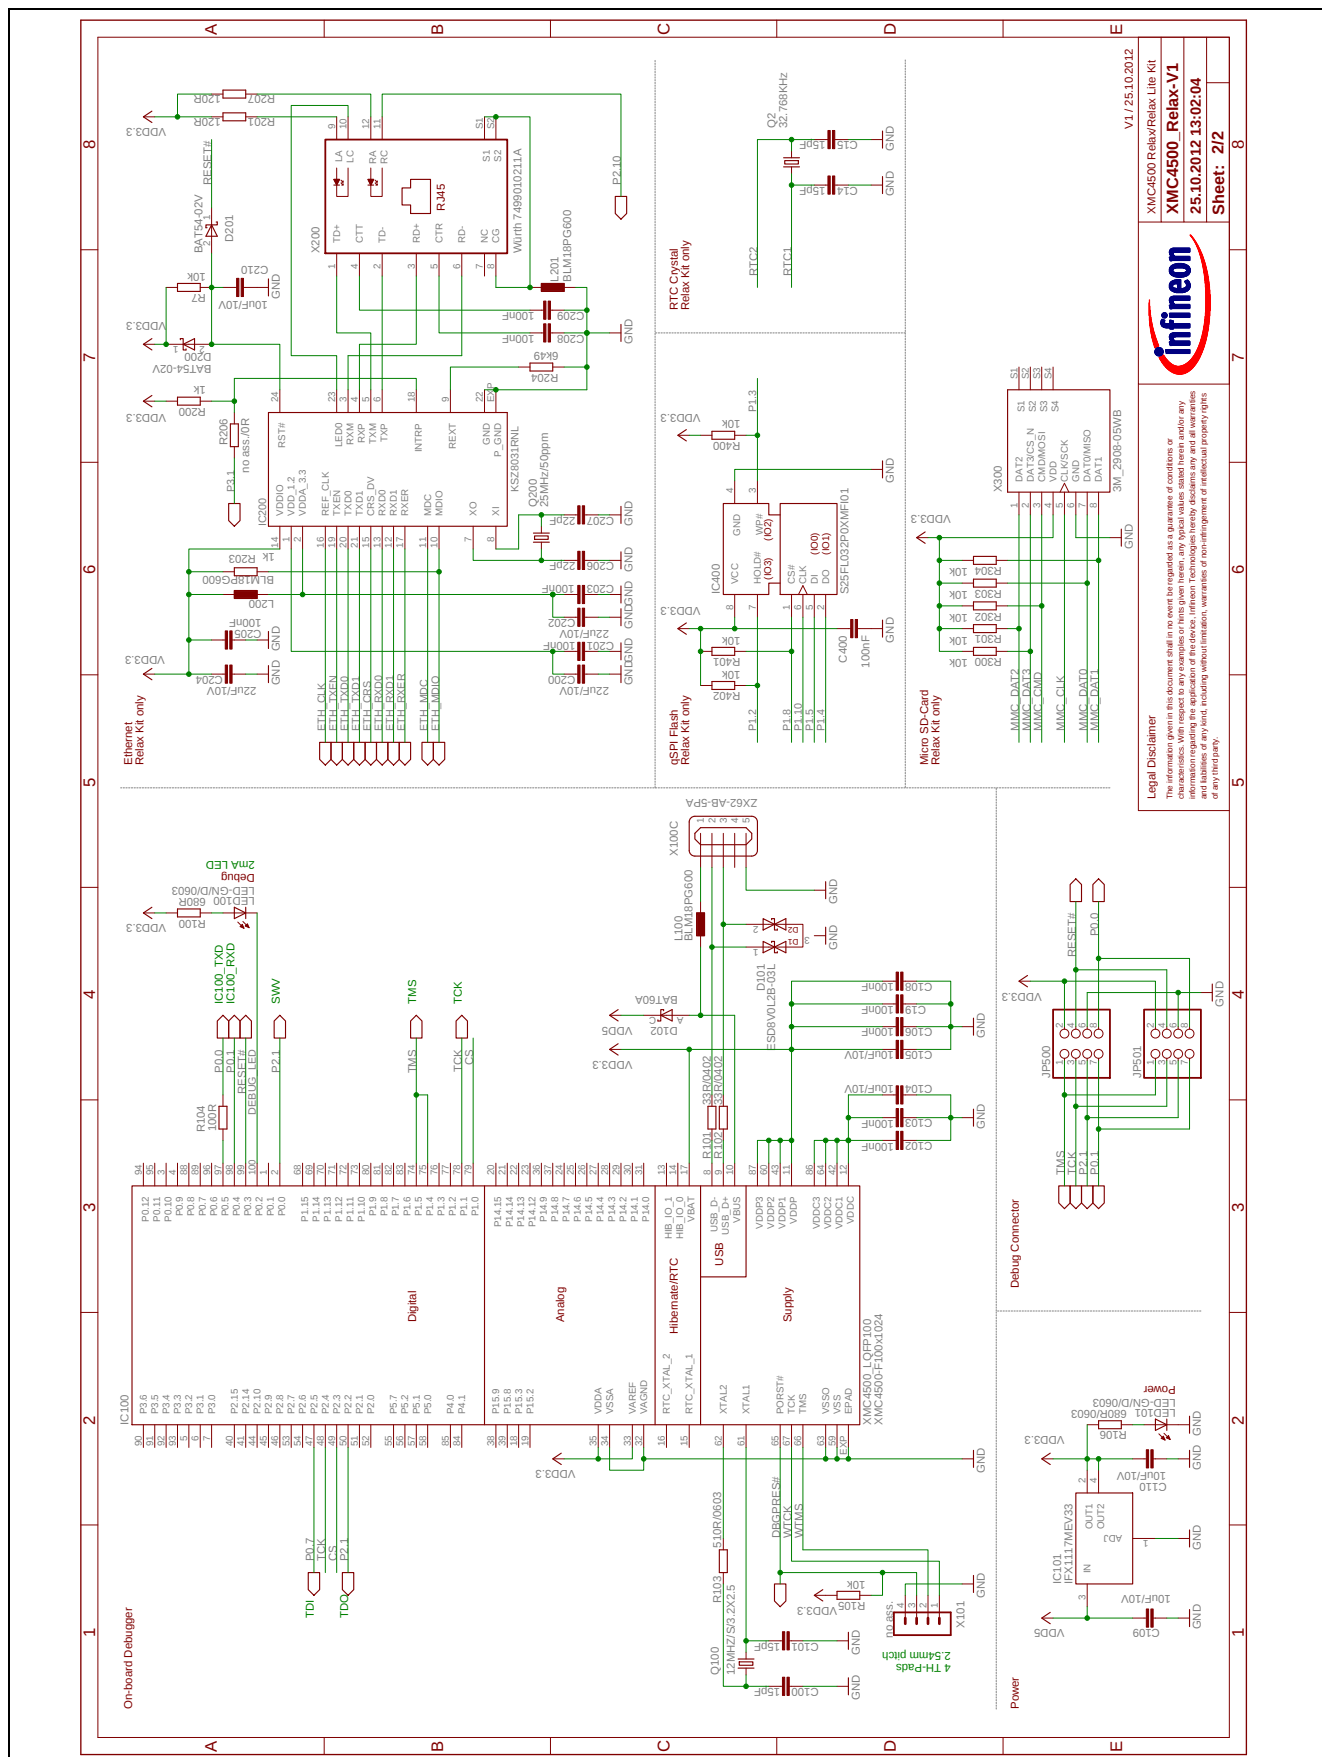

Figure 8 On-board Debugger, Power Supply, Ethernet, Quad-SPI Memory, SD Card Slot, RTC Crystal
- Figure 8: On-board Debugger, Power Supply, Ethernet, Quad-SPI Memory, SD Card Slot, RTC Crystal